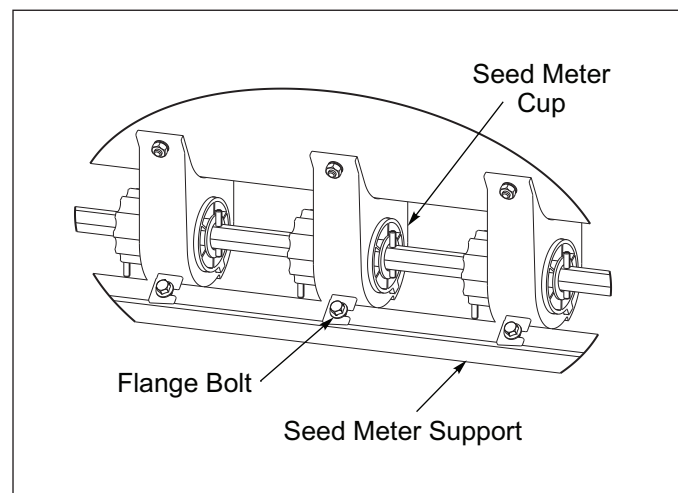
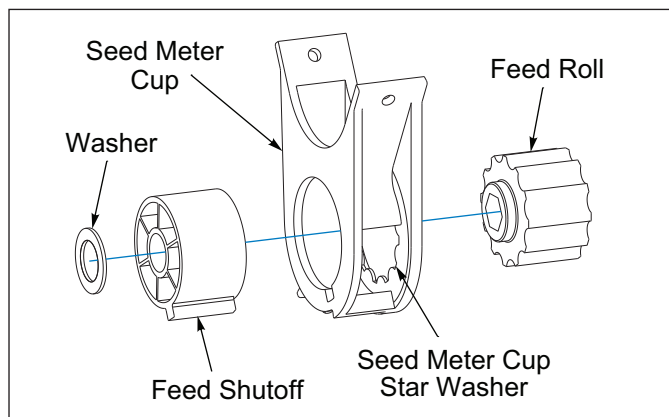

Figure 4-19: Seed Meter Supports
Figure 4-21: Large Seed Meter
Ensure that the Seed Shaft can turn freely without any binding when the Seed Meters are open or closed after servicing. Seed Box with Large Seed Meters you may need to make adjustments to the Seed Meter Supports at each Seed Meter Cup. See Figure 4-19.
3. **Micro-Meter Box:** Individual Seed Meter Cups can be adjusted as required. Adjustments can be made by loosening the 1/4-20 x 5/8 Machine Screws that mount the Seed Meter Cup to the Seed Box. Adjust the affected Seed Meter Cup so the Feed Shutoff is against the Seed Meter Cup Star Washer in the Seed Meter Cup (closed). Be sure the Feed Roll stays engaged in the Seed Meter Cup Star Washer. **See Figure 4-21.**
4. **Large Meter Box:** Individual Seed Meter Cups can be adjusted as required. Adjustments can be made by loosening the 1/4-20 x 5/8 Machine Screws that mount the Seed Meter Cup to the Seed Box and the 1/4-20 Nut that attaches the Seed Meter Support to the Seed Meter Cups. **See Figure 4-19.** Adjust the affected Seed Meter Cup so the Feed Shutoff is against the Seed Meter Cup Star Washer in the Seed Meter Cup (closed). Be sure the Feed Roll stays engaged in the Seed Meter Cup Star Washer. **See Figure 4-21.** Check for binding by turning Seed Shaft. After adjustments have been made seal the Seed Meter Cups to Seed Box with clear Silicone.